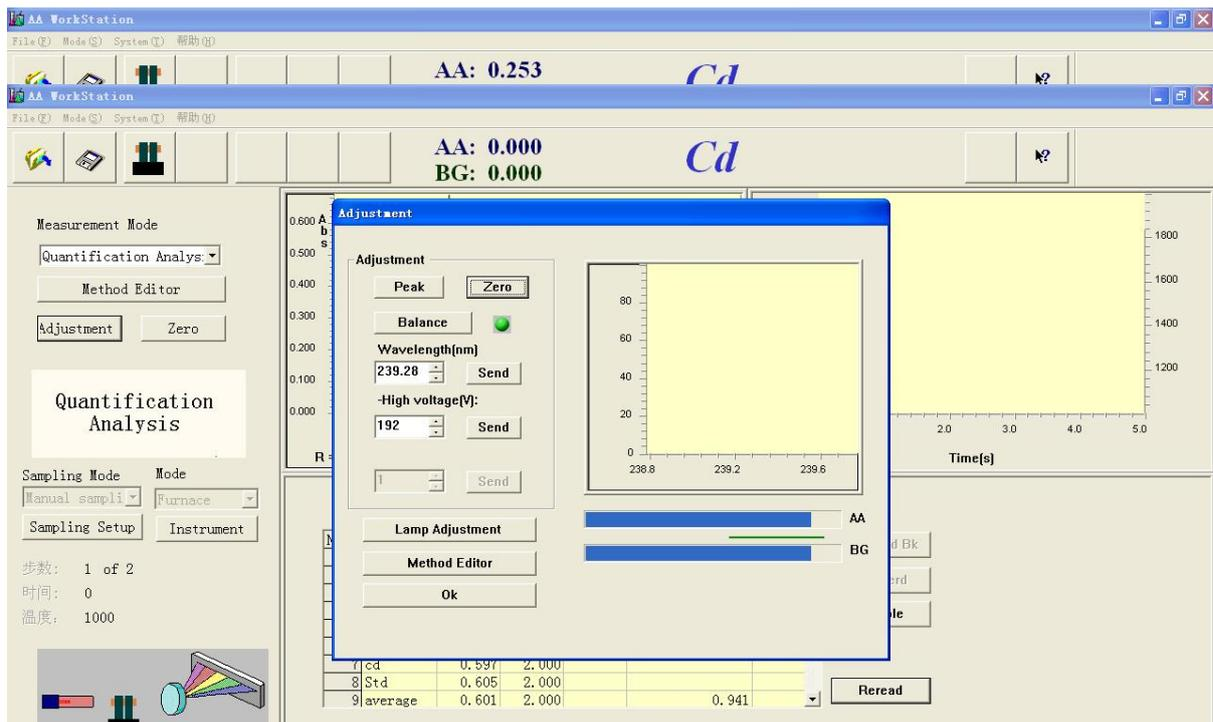

Figure 5-75
2. Press the “Balance”,Figure 5-75 pops up